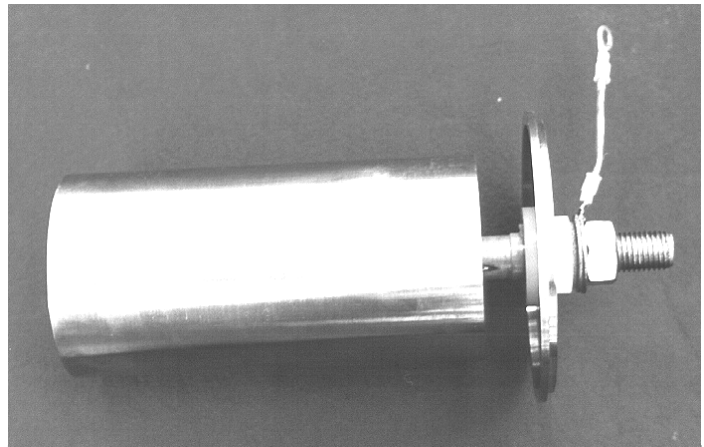

FIG 23. Cell - 5 cylinder. A view of the completed cylinder assembly
- E5f.** Now assemble the inner cylinder assembly to the lower cap plate. With clean hands, place the inner cylinder assembly top down, bolt up, on your flat plate. If not already done, slip your 1 inch long spacer sleeve onto the bolt. Next apply Vaseline (petroleum jelly), liberally all over the bolt shaft and inner washer. Place the inner washer onto the bolt so that the smaller diameter step is facing you and liberally cover this step with more Vaseline. Now place the lower cap onto the bolt the right way round, so that the 1 inch step of the inner insulator fits into the 1 inch hole of the lower cap. Again liberally apply Vaseline on the outer insulator and slip this over the bolt. Next, put your washer, electrical lug and nut on the bolt (**see FIG 23.**). Tighten the nut more than hand tight but not excessively. Check your handiwork, make sure you remove excess Vaseline also ensuring you do not get any on the cylinders or over the inside of the cap plate.